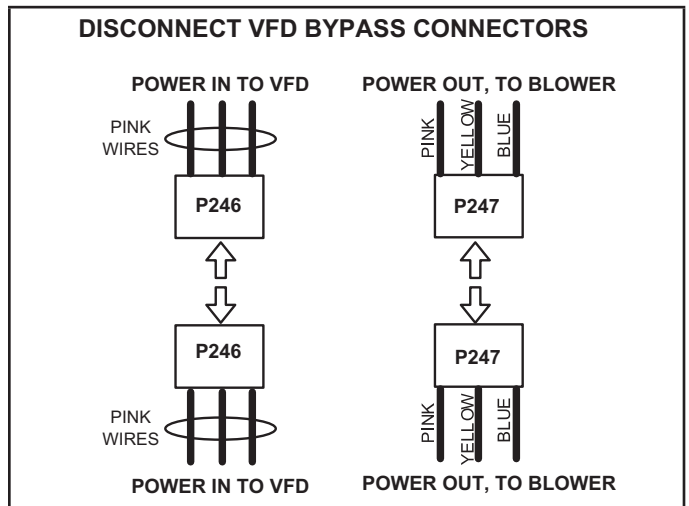

FIGURE 40
- 3 - Disconnect P246 from P246 (power in to VFD) and P247 from P247 (power out to blower). See FIGURE 40.